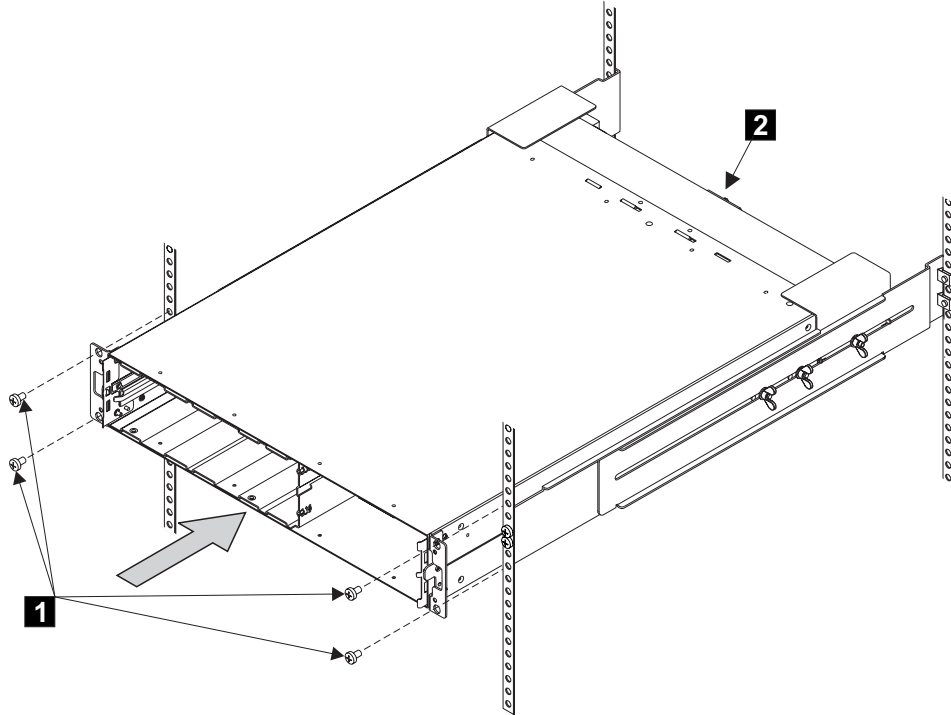

Figure 24. Installing the uninterruptible power supply into a rack
6. Install the front flathead screws (**1** in Figure 24 on page 26).